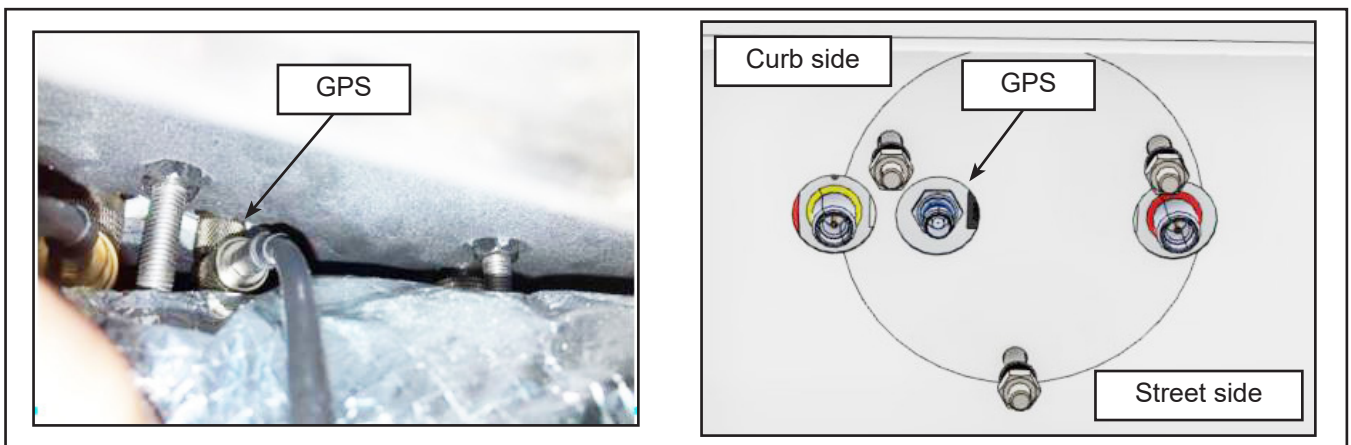

Figure 3 - GPS Connector
- 1.6. Locate the GPS antenna connectors (Figure 3).